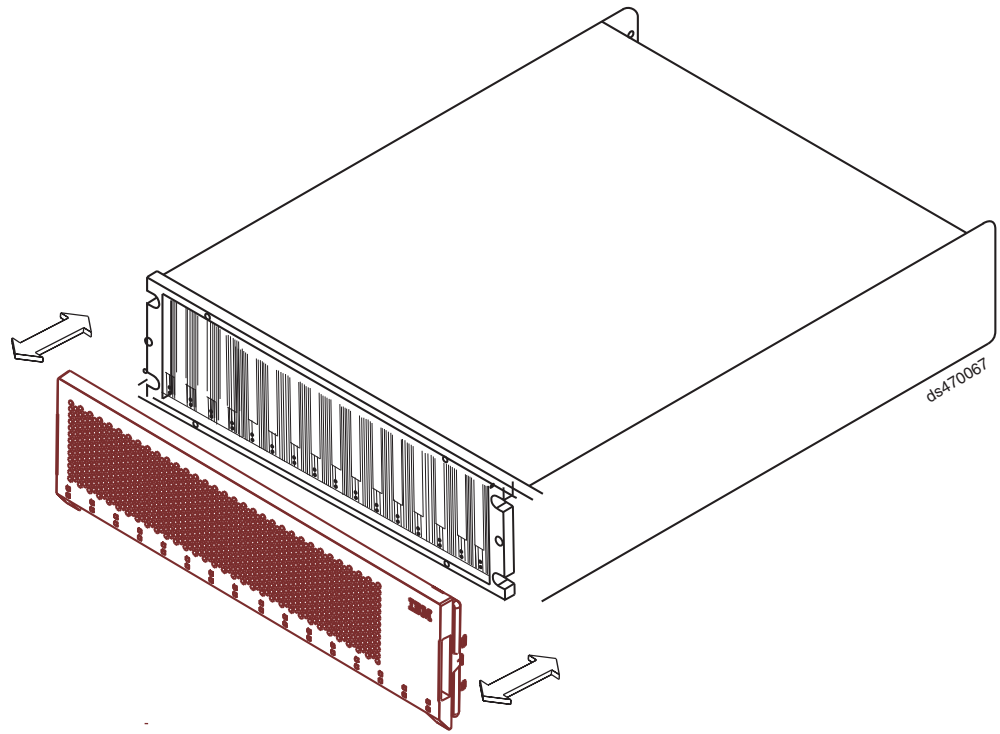

Figure 20. Installing a bezel
- Grasp the sides of the bezel and snap it onto the EXP810 chassis, as shown in Figure 20 on page 39. The bezel is self-aligned in the recessed opening in the front of the EXP810 chassis.